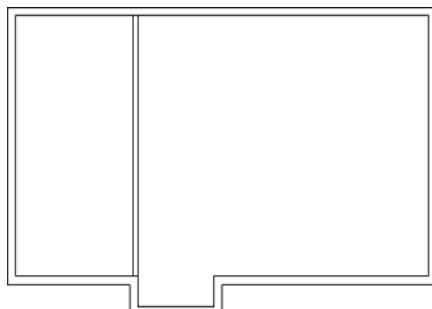

FIGURE 4.16 The first interior wall
8. Click the new line that was just offset, and then click in a blank area to the right of that line. You have created a vertical interior wall (see Figure 4.16). Press ↵ twice to stop and restart the OFFSET command.